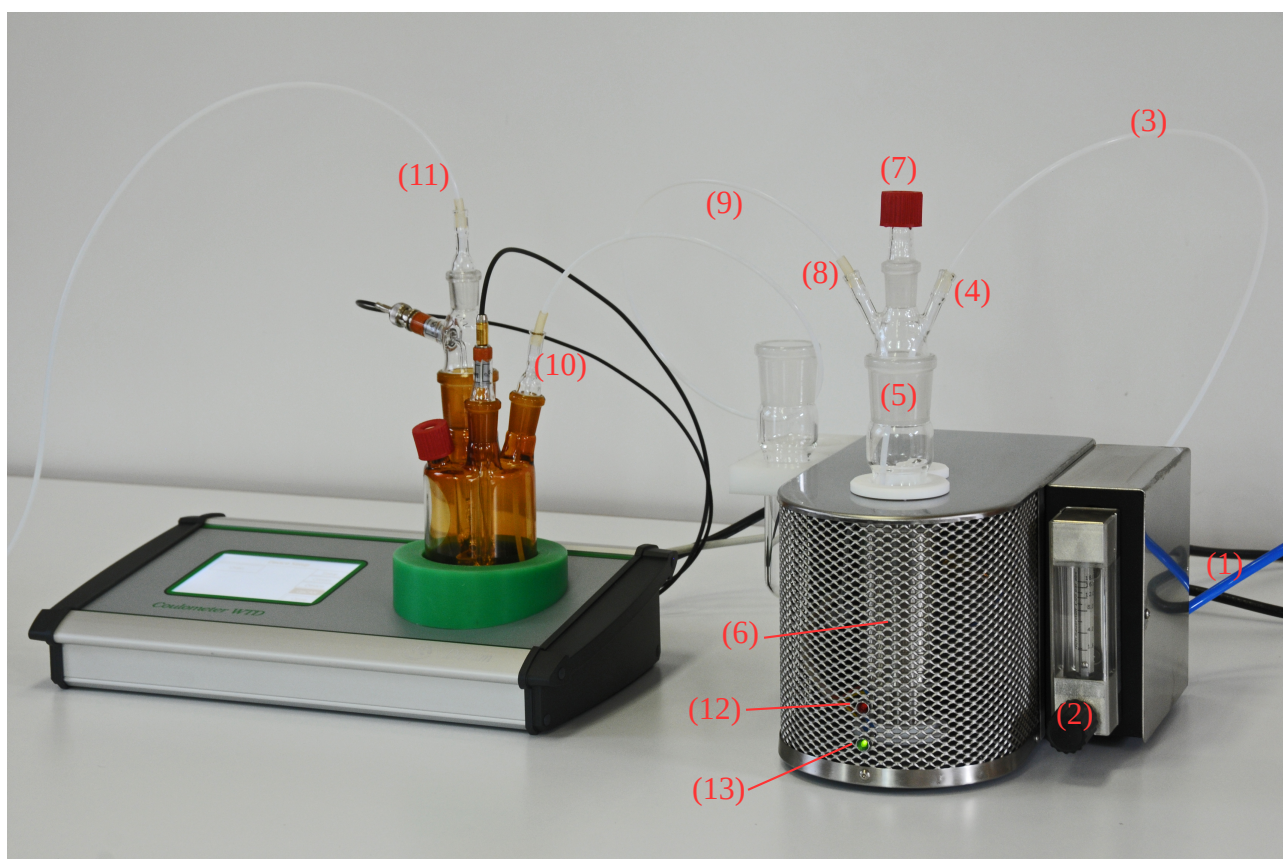

Figure 6: Drying oven
The drying oven is shown in Fig. 6. Dry carrier gas flows by a blue inlet (1) to a flowmeter with a flow regulator (2), inlet PTFE hose (3) to a glass inlet (4) of a glass tube (5) embedded in a heating chamber (6). The glass tube is equipped with a small screw cap with a septum for sample insertion (7). The carrier gas with released moisture then flows through outlet (8) via PTFE outlet hose (9) to a special gas inlet (10) of the titration vessel. On the top of the generation electrode there is a PTFE exhaust hose (11) leading the gases outgoing from the titration vessel. In the front of the oven there is a green power connection indicator (12) and a red heating indicator (13). On rear panel there is a main switch, a power socket and a connector for connection with the Coulometer WTD instrument.
Assemble the glass parts and the hoses as in Fig.9. The PTFE hoses are accommodated in the glass necks by pieces of soft hoses in order to make a seal. The inlet hose leading the carrier gas from the flowmeter to the glass tube should lead to the bottom of the glass tube so that after sample insertion, the gas can bubble through the sample. The outlet hose is above the sample level. On the other side, the outlet hose is coming to the titration vessel of Coulometer WTD through the special glass part with the ground joint and is immersed in the titration electrolyte (as in Fig.6). Adjust the PTFE hose in the glass part by a piece of a soft hose. Add the exhaust hose of the titration vessel to the top of the generation electrode using the special glass part with ground joint and a piece of soft hose to seal. Lead the exhaust hose to a hood.
Prepare a four-neck titration vessel of Coulometer WTD with the special gas inlet (as in Fig. 6), equipped with the indication electrode, generation electrode without a diaphragm, screw cap with a septum and a teflon magnetic stirring bar inside.
Fill the titration vessel with a suitable electrolyte as described in section 2.3.1. Use electrolyte without volatile components intended for use with oven. Connect the titration vessel with the drying oven by the outlet hose of the drying oven (Fig. 6, (9)). The outlet hose should be immersed in the electrolyte of the titration vessel. Connect cables of indication and generation electrodes of